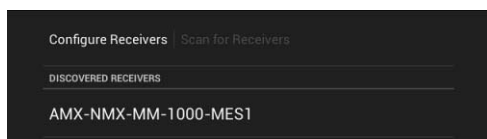

FIG. 42 Configure Receiver window - DISCOVERED RECEIVERS list indicating one Enzo receiver
2. As Enzo units are discovered, they are added to the *DISCOVERED RECEIVERS* list (FIG. 42):
NOTE: As Enzo units are discovered, they are listed in order in which they are discovered. Each Enzo unit is represented in this list by its current device name (as set on the Enzo unit). If the device name has not been edited, then the default device name is used, as shown in FIG. 42. The default device name is based on the unit's serial number.